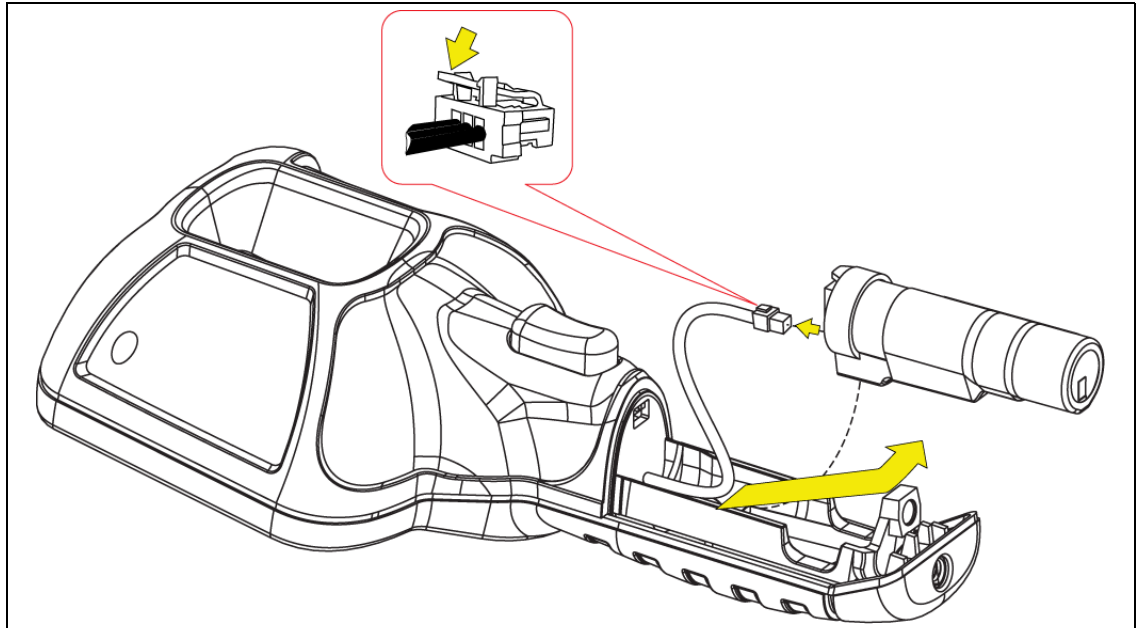

Figure 10-4
- Carefully lift out the battery pack, then press down on the battery lead connector release tab and remove the connector from the battery pack (Figure 10-4).